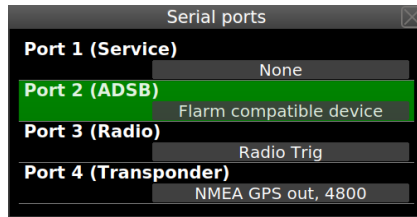

Figure 3.17: Serial port configuration window.
4. Select the *Serial ports* item. Figure 3.17 illustrates the window.
Configure the transponder RS-232 part to *NMEA* and set data rate to *4800*. Also, set Nesis port to *NMEA GPS out, 4800*, see Figure 3.17.